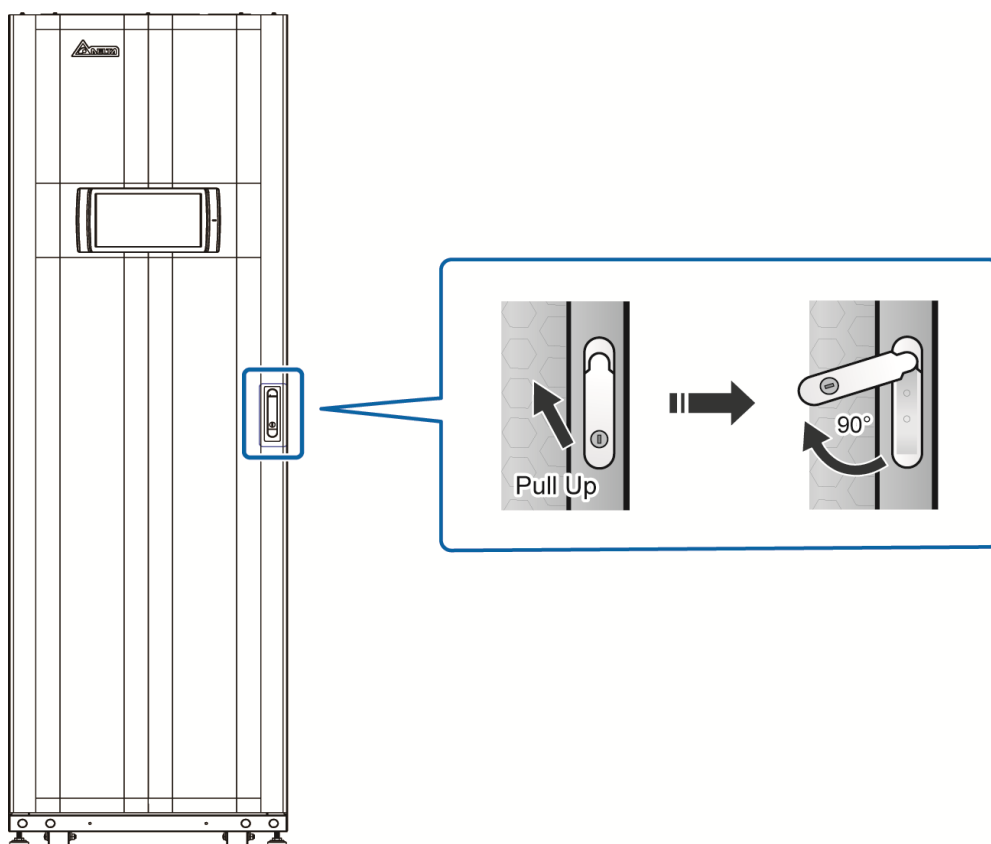

Figure 2-3: How to Open the UPS Front Door
4. Please refer to *Figure 2-3* for how to open the UPS front door.